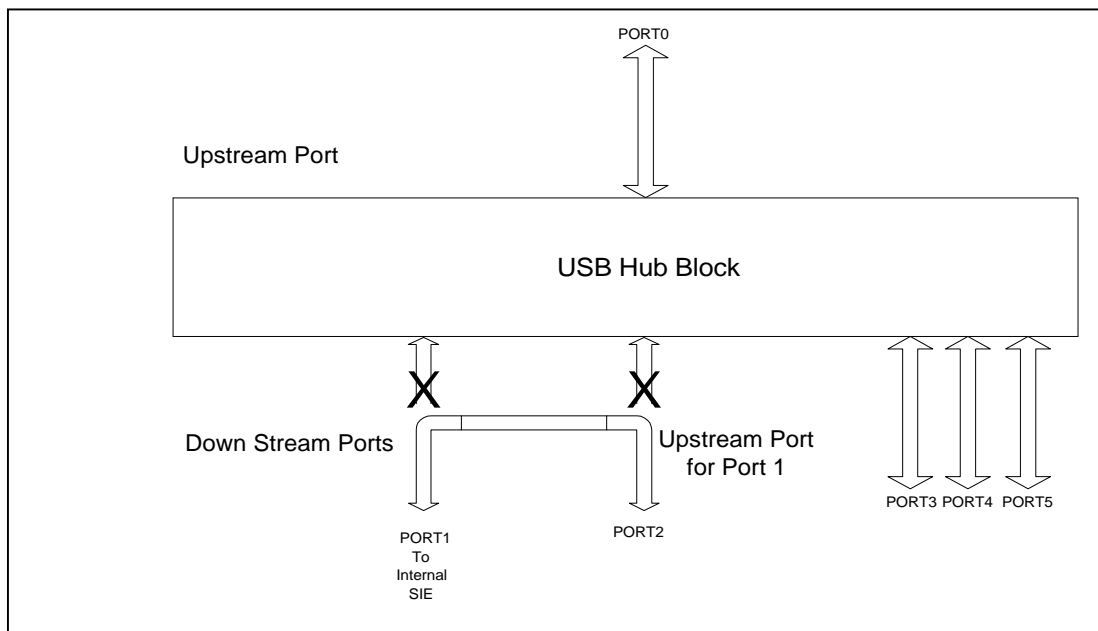

FIGURE 8 – HUBBYPASS2
Note 1: When the SMSC USB97C102 is in “HubBypass” mode, all other ports, with the HubBypass bit cleared (0), are still connected to the internal USB Hub. Please refer to **FIGURE 8 – HUBBYPASS2** on page 67 for a diagram showing “HubBypass” mode. It is recommended that only one “HubBypass” bit be set.
The diagram shown in **FIGURE 8** shows the Hub configured for hub bypass mode 2.